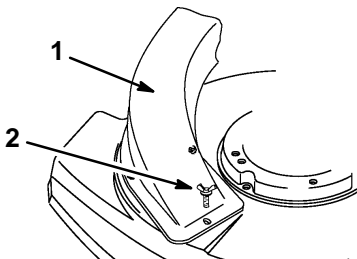

Figure 38
- 7. Secure the chute assembly with the wing screw (Fig. 38).